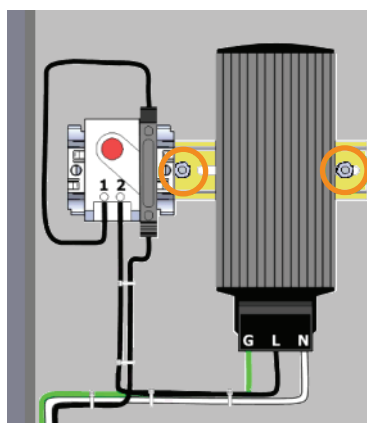

Figure 1 Attach Heater Assembly
- Step 1. Install the heater subassembly to the right inner side wall of the cabinet. Secure the heater subassembly to the cabinet with two nuts. See *Figure 1*.